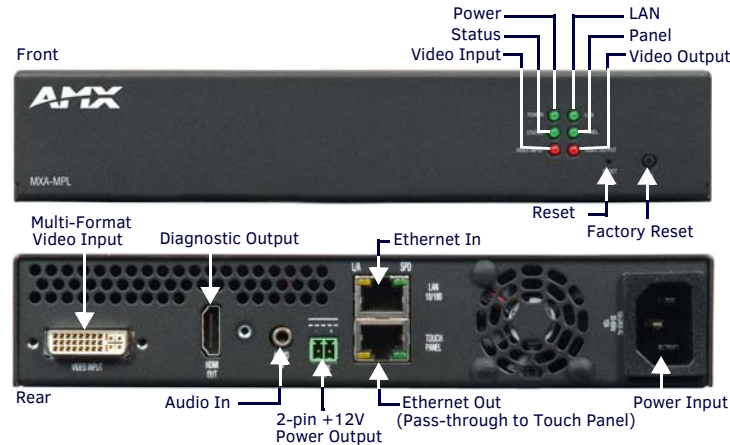

FIG. 1 MXA-MPL
1. Insert the incoming network connection cable from the Enova switcher to the upper *Ethernet In* RJ-45 connector (FIG. 1).
3. If the touch panel is a MXD/T-1900/1901L-PAN or MXD/T-2000/2001XL-PAN, outgoing power to the touch panel may be supplied via the MXA-MPL's 2-pin +12V Power output (FIG. 1) or through another source. Do not apply power until the installation is complete.
To reboot the MXA-MPL, press and hold the **Reset** button (FIG. 1) for one second.